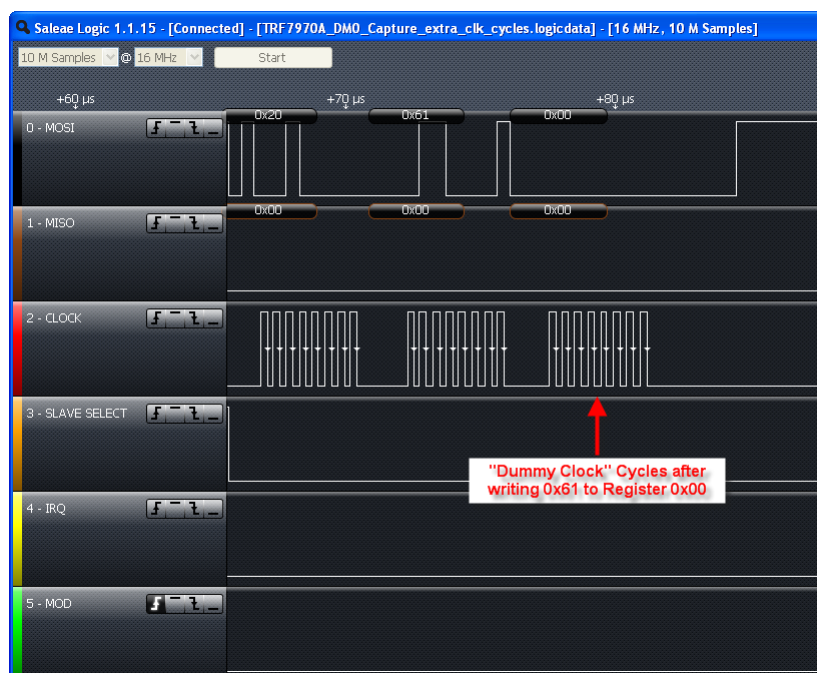

Figure 5-27. Entering Direct Mode 0
4. Send extra eight clock cycles (see Figure 5-27, this step is TRF7964A specific)